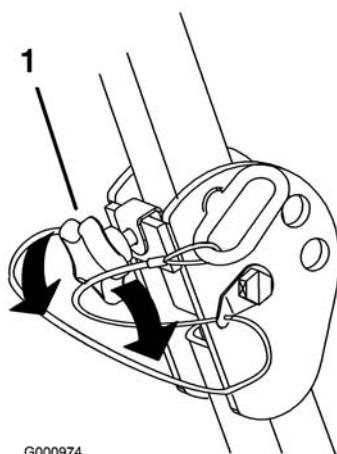

Figure 8
- To lower the roll bar, loosen the front knobs (Figure 8).
Important: Tighten the front knobs against the center roll bar ends (Figure 8).